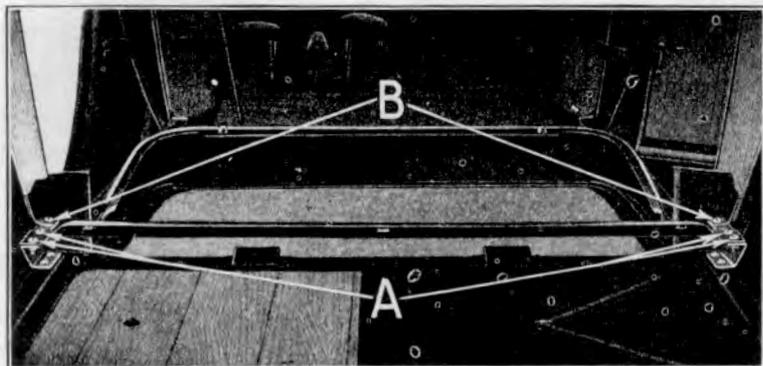

Fig. 571
- 1265** The seat can now be moved back 2" by running off the nuts on the ends of the four seat bar to bracket bolts (see "A" Fig. 570) and withdrawing the bolts. Then slide the seat bar back approximately 2" on brackets or until rear bolt hole in seat bar lines up with rear hole in bracket. The four bolts are then inserted through seat bar and brackets (see "A" Fig. 571) and lock washers and nuts run down tightly on ends of bolts.